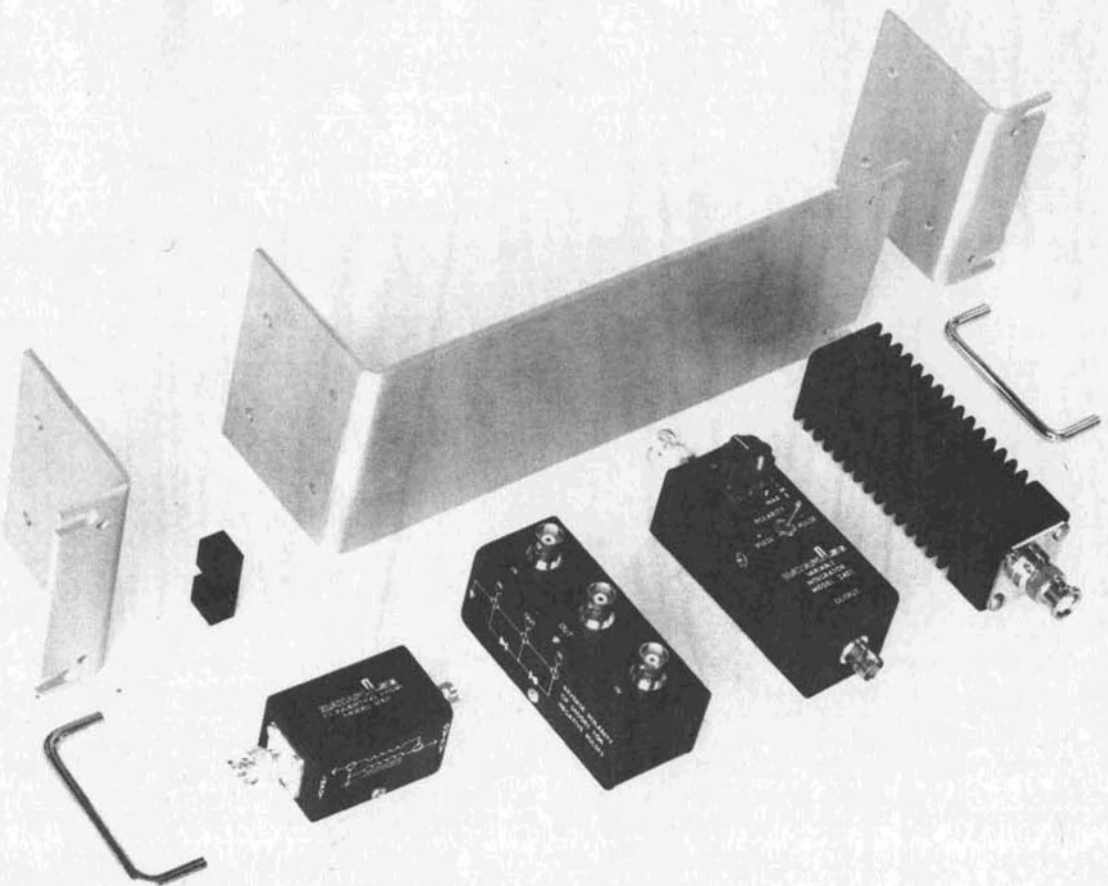

Figure 1-1. Model 100A Accessories.
1.18 Accessories Available (Figure 1-1)